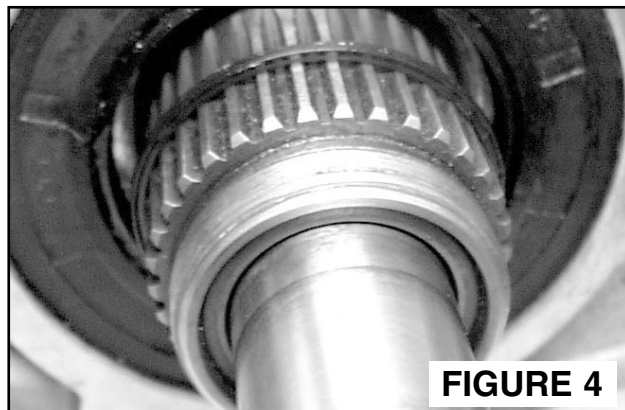

FIGURE 4
- Install Quad Seal, JIMS No. 11165, ** (supplied) over the Main Drive Gear on the right side of the Transmission. (If not already installed by manufacturer) Refer to **Figure 4**.
- Install Quad Seal, JIMS No. 11165, ** (supplied) over Mainshaft Bearing Boss on the left side of Trans. (If not already installed by manufacturer) Refer to **Figure 4**.